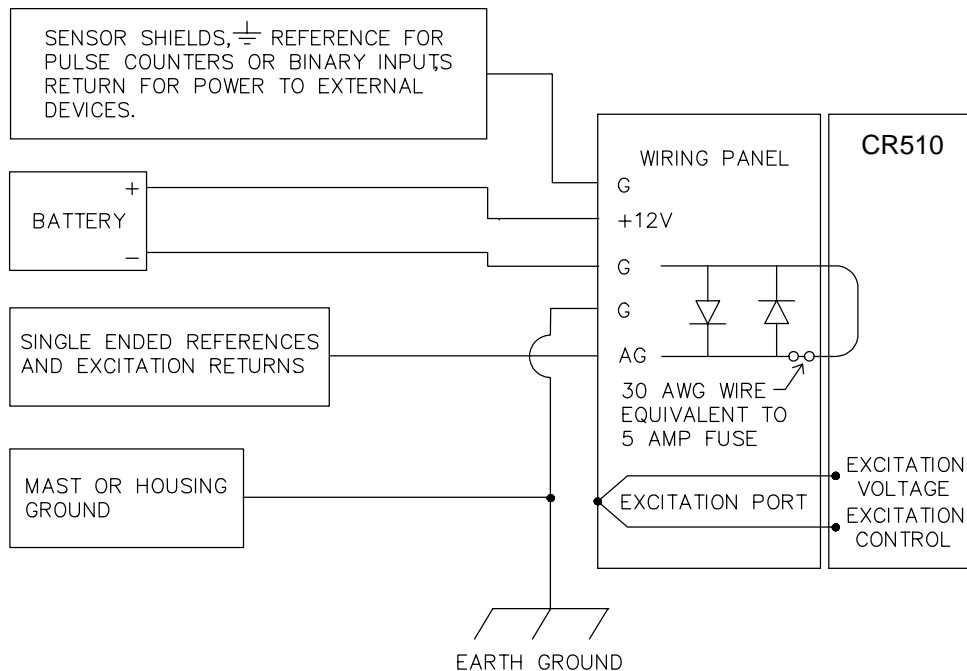

FIGURE 14.7-1. Terminal Strip Grounding Diagram and Excitation Control
Every terminal on the Terminal Strip, with the exception of ground (G) and analog ground (AG) terminals are spark gapped. The spark gaps will fire at 150 V and the current will be diverted to ground. As shown in Figure 14.7-1, the power ground and analog ground are independent lines until joined inside the CR510. The fuse shown in Figure 14.7-1 (located on the underside of the Terminal Strip) is a 30 AWG wire, equivalent to a conventional 5 Amp fuse. It will blow if a sufficient transient comes in on the G or AG lines, at which time the current is
The Terminal Strip provides transient protection, improves excitation voltage accuracy, and makes convenient, positive connections to power, sensors, and peripherals (refer to Figure 14.7-1). Terminal Strip transient protection is discussed in Section 14.7.
The Terminal Strip carries two lines between the CR510 and each excitation port. One line is for excitation voltage, the other is for feedback control of the voltage. The feedback line is required to compensate for line losses between the CR510 and the excitation port on the Terminal Strip (see Figure 14.7-1).